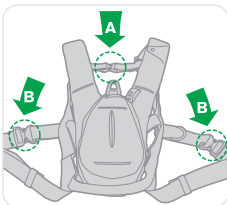
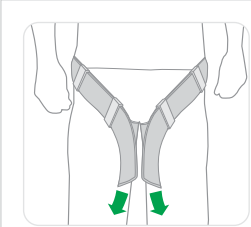

Figure 11
Figure 14
- Put arms through the shoulder straps and connect chest buckle (A) (Figure 11).
- Connect the leg buckles (B) (Figure 11). Adjust the leg strap by pulling the straps through the buckles to achieve a snug fit (Figure 14).